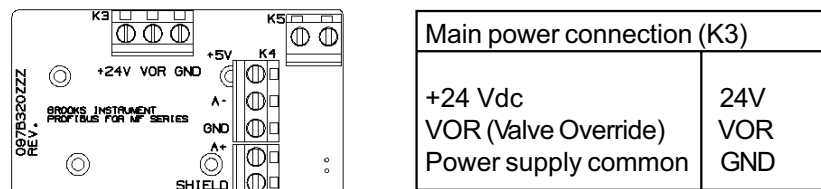

Figure 2-4: MF Profibus Main Power Connection
The MF series have a PG11 connector at the inlet side of the mass flow device for the power supply and analogue I/O. In case of profibus no analogue I/O is possible, except for the Valve OverRide (VOR) input. In these cases this PG11 connector is solely used for the power supply connection and the VOR input signal. Figure 2-4 shows the terminal connection location for power supply and V.O.R. the power connection (as well as the profibus connection terminals) can be accessed by opening the top cover plate by removing the four bolts on the top of the cover plate.
4. Verify that all user-selectable jumpers and switches have been set to the appropriate positions. Refer to Figure 2-4 and table 2-4.